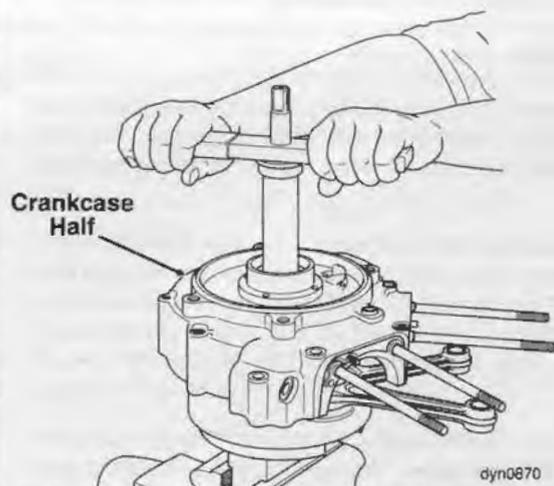

Figure 3-87. Press Inner and Outer Bearings
3. Assemble SPROCKET SHAFT BEARING TOOL as described below. See Figure 3-87.